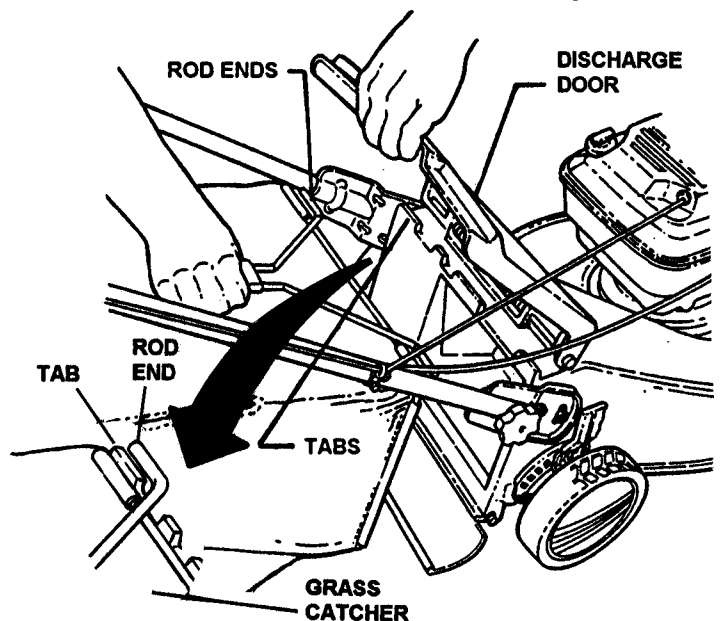

FIGURE 3
STEP 5: Install grass catcher to mower as follows: Lift discharge door, then grasp handle and hold grass catcher/frame up while placing rod ends over tabs at rear of mower deck. Release discharge door. See Figure 3.